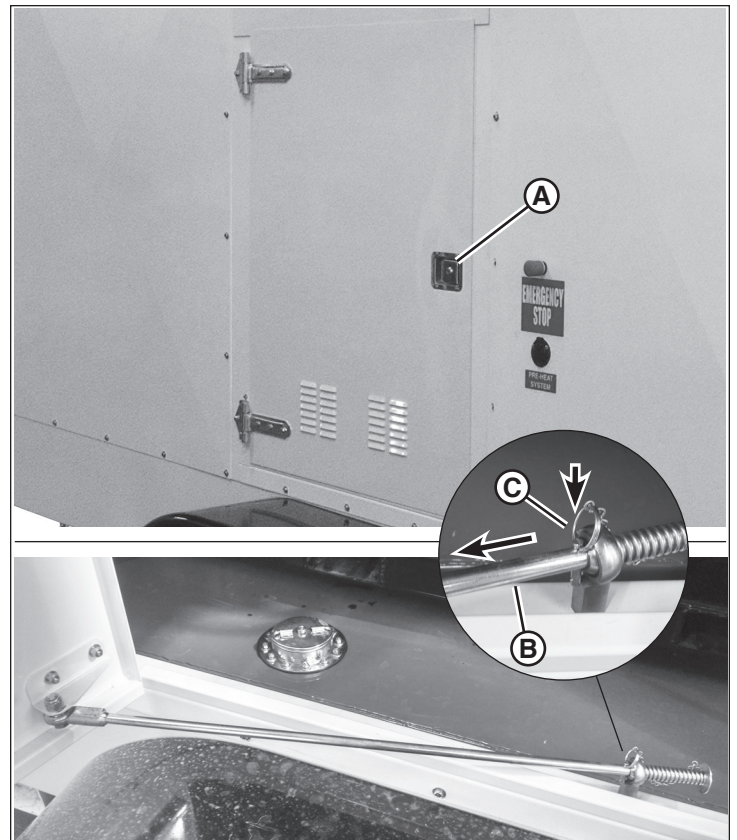

Figure 13
- Pull the latch (A, Figure 13) to open the compartment access door. (Control compartment access door shown).
- Lock in the open position by inserting the lock pin (C) into the hole in the door lock rod (B). Be sure the hole is on the outside of the trunion.